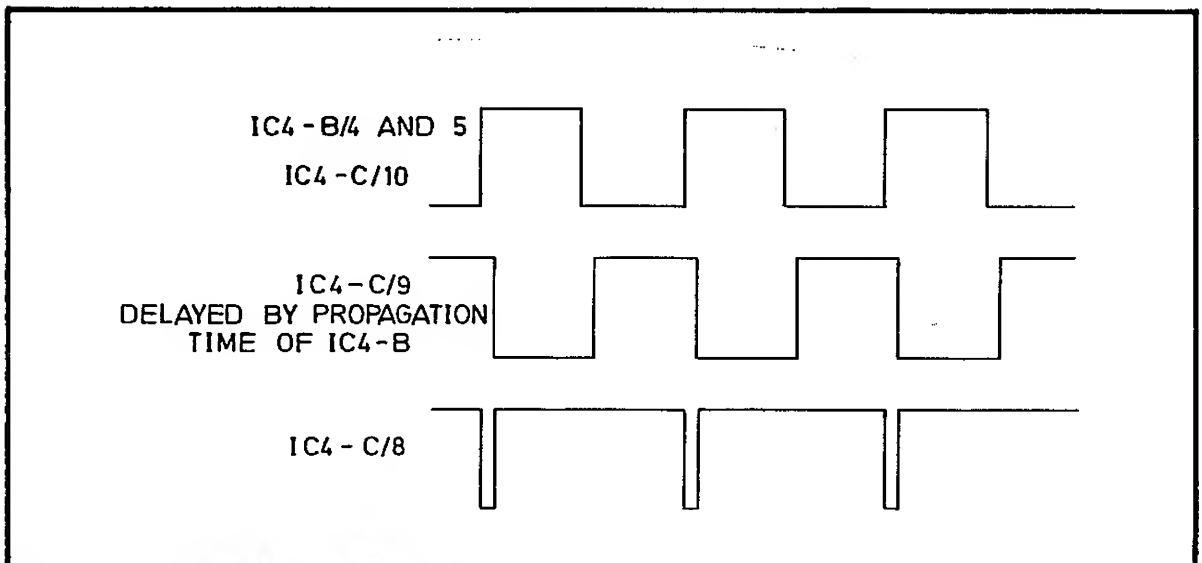

Fig. 6.13 Pulse Generator Waveforms
- 121 Two antiphase waveforms derived from the external reference signal enter the system at SK16 pins 6 and 9. The waveform from pin 9 is converted from ECL to TTL levels in Q1 and squared in IC4d before being applied to the pulse generator, IC4b and IC4c. The operation of this circuit is illustrated in Fig. 6.13.